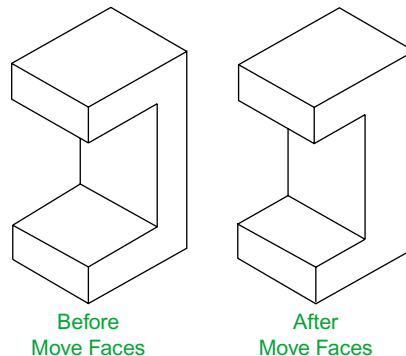

Fig. 18.6 Third example – **Solid, Move faces tool**
Third example – Move faces tool (Fig. 18.6)
1. Construct the 3D solid drawing shown in the left-hand drawing of Fig. 18.6 from three boxes which have been united using the **Union** tool.
And the *picked* face is moved – right-hand drawing of Fig. 18.6.